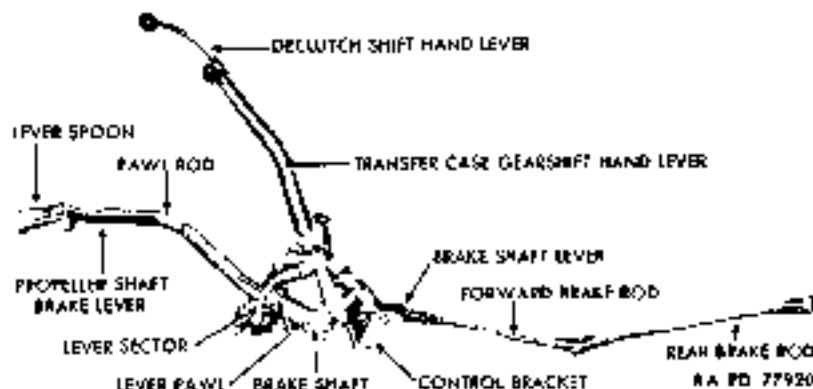

Figure 79 - Propeller Shaft Brake Lever and Linkage
a. **Description** (fig. 79). The lever is located in cab beside operator's seat. It consists of a solid bar which pivots on a shaft beneath the floor board, and is held in position by a lever spoon, pawl rod, and lever pawl which engages with a lever sector.
b. **Removal** (fig. 79). Loosen cap screw which clamps brake lever to brake shaft. Remove the two cap screws and lock washers which secure lever sector to control bracket. Remove lever, pawl rod, and lever sector as a unit, and remove Woodruff key from shaft.
c. **Installation** (fig. 79). Insert Woodruff key in brake shaft, and position brake lever on brake shaft and lever sector to control bracket. Install two cap screws and lock washers which secure lever sector to bracket, and tighten cap screw which secures lever to brake shaft.
a. **Description** (fig. 79). The linkage consists of two brake rods, one located between brake shaft lever and brake transfer lever and one between brake transfer lever and disk brake cross shaft brake lever. Action of the brake lever is transmitted through the brake rods to brake shoes. **CAUTION:** Although linkage is adjustable, it must not be used as a method for adjusting brake.
b. **Removal** (fig. 79). Remove the cotter pin and clevis pin from each end of both rods, and remove rods. Loosen cap screws which secure transfer lever, the four clevis levers, and the shaft lever, and remove levers.
c. **Installation** (fig. 79). Position levers on respective shafts, and tighten cap screws which secures each. Position rods between brake shaft, brake transfer shaft, and brake cross shaft. Install clevis pin and cotter pin at both ends of each.